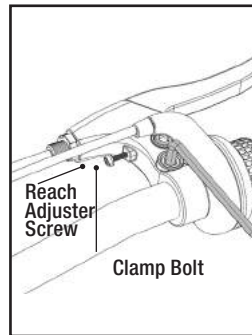

Figure 62
Check to make sure that the lever is tight. It should not move on the handlebar when tightened properly. The reach of the brake levers can also be adjusted. A screw changes the point where the lever rests. This is useful for riders with small hands. Simply use (A) a Standard Phillips Head Screwdriver to adjust this (see Figure 62).